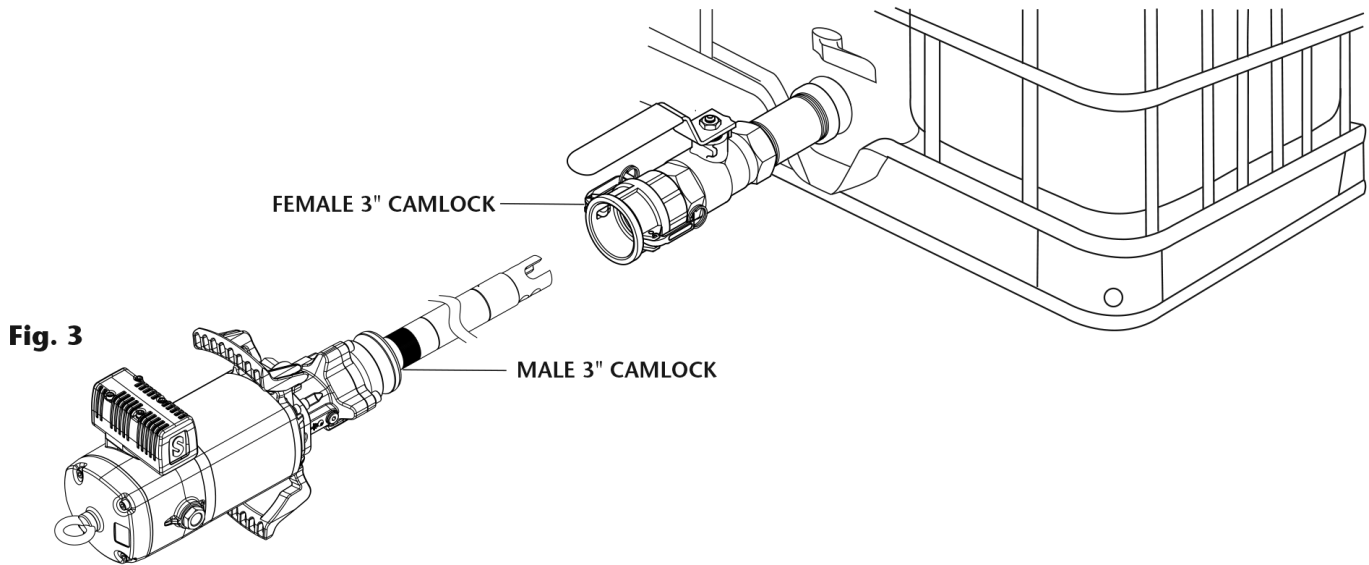

Fig. 3
B. HORIZONTAL MOUNTING TO A BULK CONTAINER (L791450-004 PUMPS). THESE PUMPS HAVE THE MALE PART OF A 3" CAMLOCK WHICH WOULD CONNECT TO THE FEMALE PART INSTALLED IN THE CONTAINER (FIG. 3).